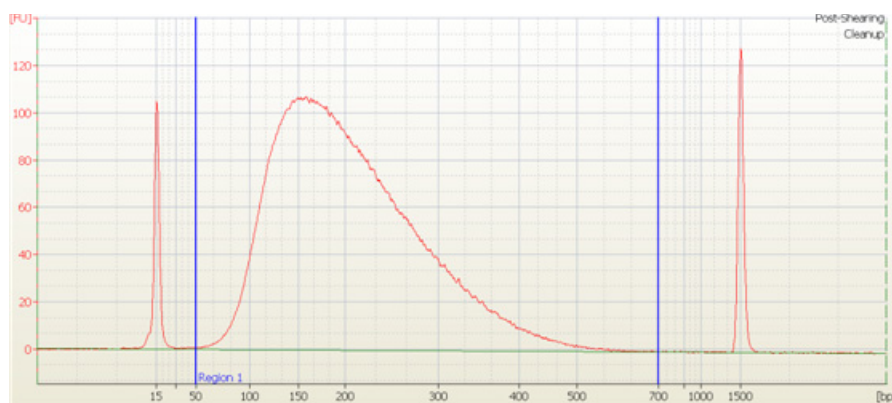

Figure 4 Analysis of sheared DNA using a DNA 1000 Bioanalyzer assay.
- 6 Verify that the electropherogram shows the peak of DNA fragment size positioned between 150 to 200 bp. A sample electropherogram is shown in Figure 4.